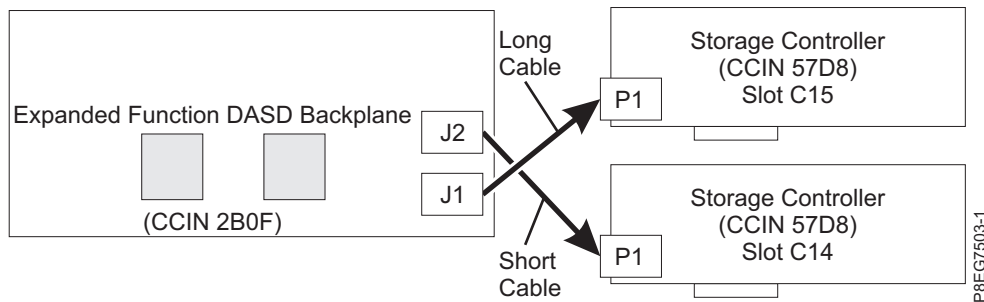

Figure 9. Reconnecting the SAS cable in an expanded function configuration
- The short SAS cable connects the upper disk drive backplane connector (J2) to the P1 connector on the SAS RAID internal adapter in slot P1-C14. See Figure 9.
- The long SAS cable connects the lower disk drive backplane connector (J1) to the P1 connector on the SAS RAID internal adapter in slot P1-C15. See Figure 9.